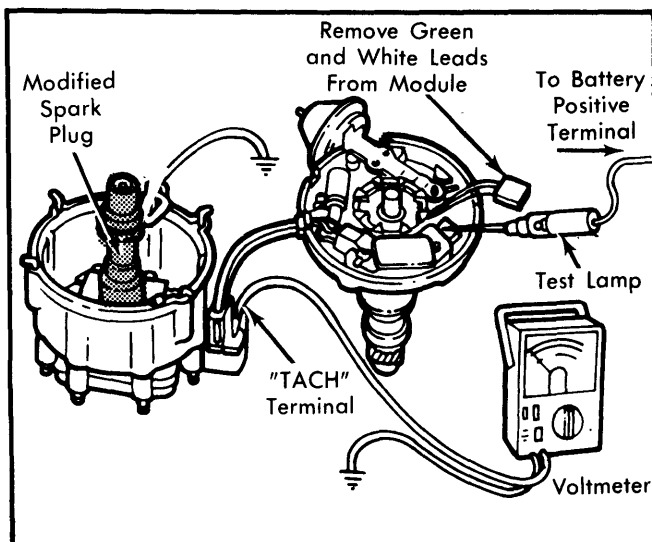

Fig. 4 Checking Ignition Coil for Defects
4) Remove pick-up coil connector (green and white wires) from electronic control module. See Fig. 4. Attach modified spark plug to coil secondary terminal (inside distributor cap). Attach positive lead of voltmeter to "TACH" terminal of distributor cap and negative lead to ground. Watch voltmeter as test lamp is connected from battery power to module's "G" (small) terminal for about 5 seconds. Remove test lamp from terminal "G" of module, checking for spark at modified plug.
10) If no module tester is available, check ignition coil ground. If OK, replace ignition coil. Then, again attach voltmeter positive lead to "TACH" terminal and negative lead to ground. Connect modified spark plug to coil secondary terminal (inside distributor cap). See Fig. 4. Connect test lamp between battery power and module "G" (small) terminal. Remove test lamp and spark should occur at gap of modified spark plug.